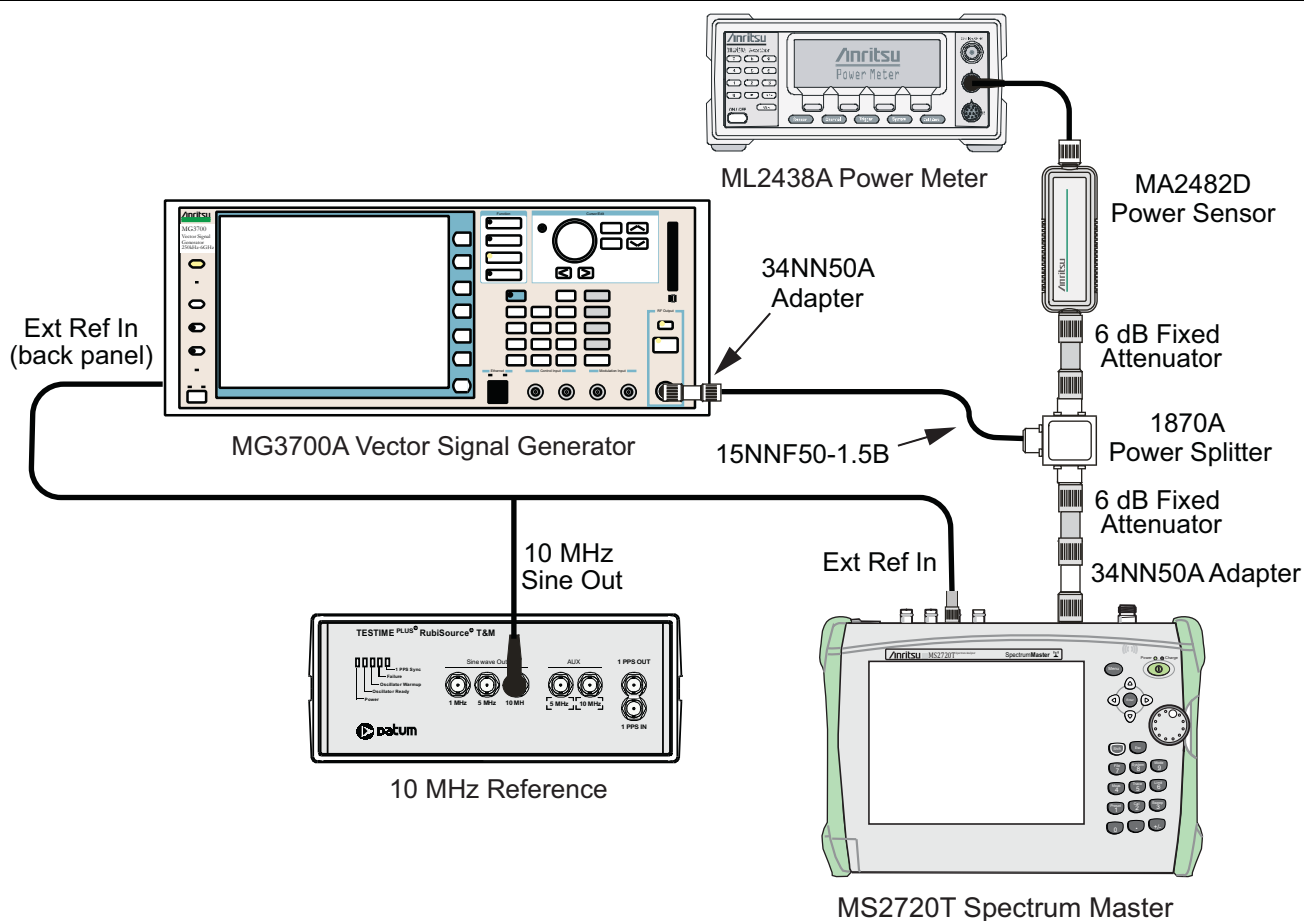

Figure 3-10. TD-LTE Signal Analyzer Option Verification
4. Connect the Power Sensor, 1870A splitter, 6 dB attenuators (quantity 2), as shown in Figure 3-10.